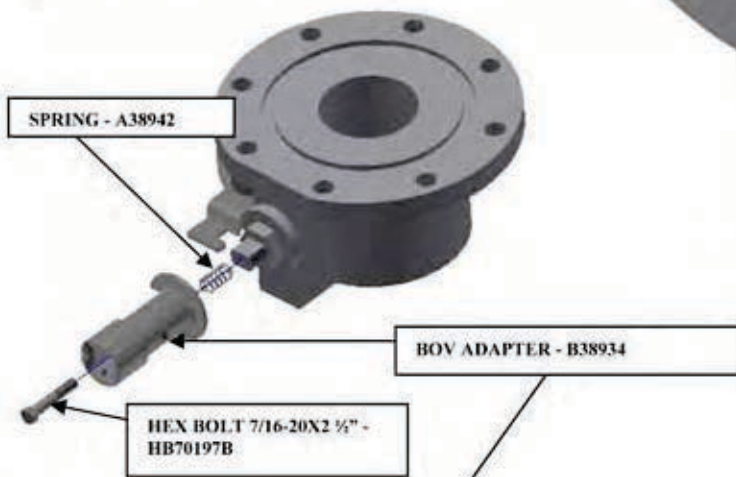

Fig. 3
4. When bottom outlet valve is in closed position the Locking Bracket should be centered and engaged with the BOV Adapter (see Fig. 3 & 4).